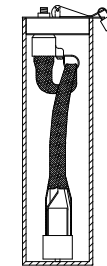

FIGURE 3
6. PADLOCK IF NECESSARY (FIGURE 3). *LOCK NOT SUPPLIED.*